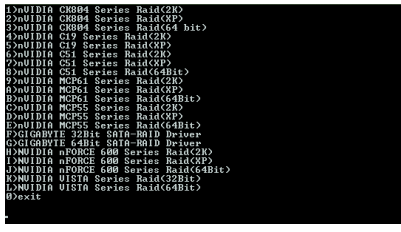
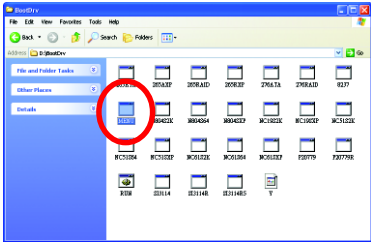

Figure 11
Figure 12
Step 2: When the controller menu (Figure 11) appears, remove the startup disk and insert the blank formatted disk. Select the controller driver by pressing the corresponding letter from the menu. For example, from the menu in Figure 11, press A to select (A) nVIDIA MCP61 Series Raid (XP) if you wish to install Windows XP (32-bit). Your system will then automatically zip and transfer this driver file to the floppy disk. Press 0 to exit when finished.
Use an alternative system and insert the GIGABYTE motherboard driver CD-ROM. From the CD-ROM drive folder, double click the MENU.exe file in the BootDrv folder (Figure 12). A command prompt window will open similar to that in Figure 11.